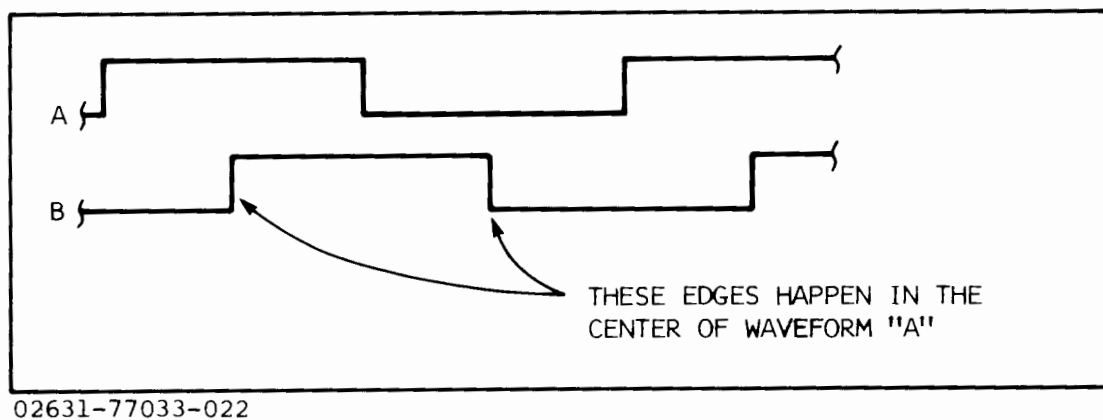

Figure 4-2. Encoder Waveform (2631G)
- g. Move the oscilloscope probes to test points A and B. Loosen the screw holding the encoder assembly and move the encoder inward as far as possible, then back it out slightly until the waveform in Figure 4-2 is observed (90 degree phase shift).
- i. Move the oscilloscope probes to test points C and D again and verify a similar waveform to that shown in Figure 4-2. (The frequency of the waveform will vary from the waveform observed in step "g" but will still have a 90 degree phase shift.)